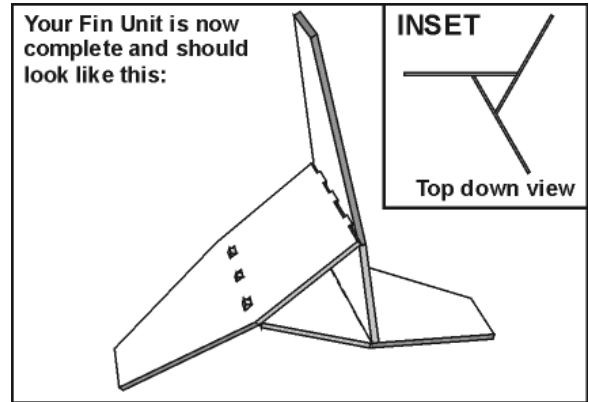

Figure 11
- 11. When you are done, your Fin Unit should look like that shown in **Figure 11**.